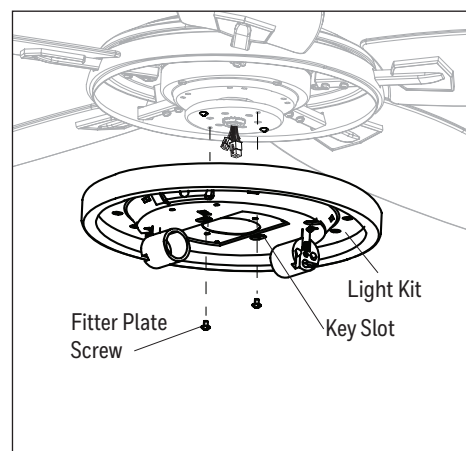

Figure 5.6
6. Remove two of the four fitter plate screws located on the underside of the motor assembly and loosen the other two screws. Align the two key slots of the light kit with the loosened fitter plate screws. Rotate the light kit clockwise until the screw heads engage the key slots. Replace previously removed fitter plate screws, then tighten all screws (Figure 5.6).